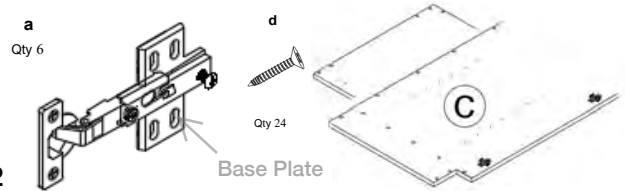

Figure 2
2. Install Hinge base plates (a) onto side panel into designated holes using screws (d). (Figure 2)